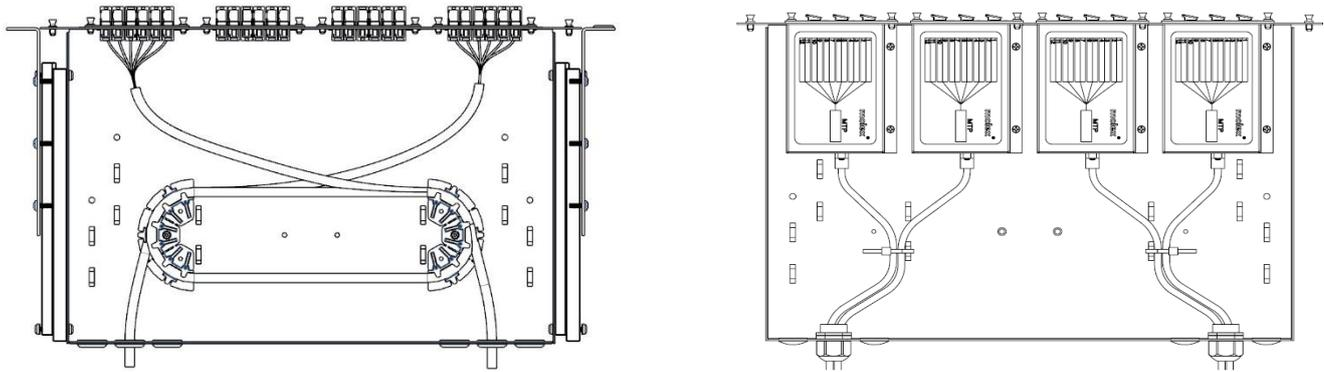

Fig.5
3.5 Cable and routing (Fig. 5)